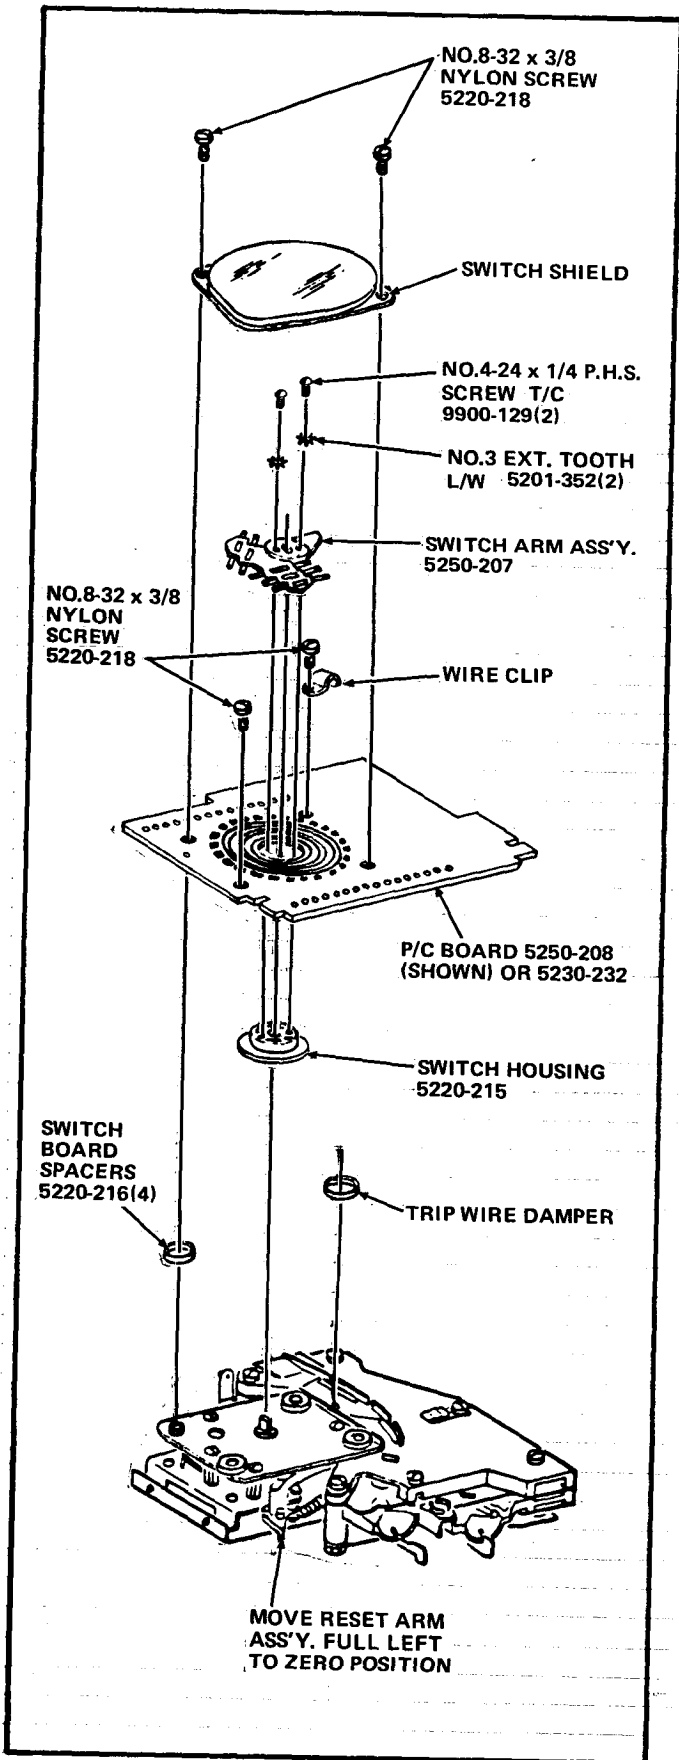

FIGURE 5
- b. Install the Switch Housing, Part Number 5220-215, included in the Kit, on the Accumulator Assembly Shaft with the flat side down. See Figure 5.
- c. Install the four Switch Board Spacers, Part Number 5220-216, included in the Kit, and the Trip Wire Damper removed in Step H-5. See Figure 5.
- e. Attach the PC Board with two of the No.8-32 x 3/8 Pan Head Nylon Screws, Part Number 5220-218, included in the Kit. Install one Screw in the hole at the lower left of the Switch Contacts. Install the other Screw and the Plastic Wire Clip removed in step H-3 in the hole at the upper right of the Switch Contacts. See Figure 5.
- g. Install the Switch Arm Assembly, Part Number 5250-207, included in the Kit, as shown in Figure 5. Attach the Switch Arm Assembly to the Switch Housing installed in step I-2-b, using the two No.4-24 x 1/4 Pan Head T/Cutting Screws, Part Number 9900-129, and the two No.3 External Tooth Lockwashers, Part Number 5201-352, included in the Kit. Do not tighten the Screws all the way.
3. Install the Switch Shield removed in step H-2. Attach the Switch Shield with the two remaining No. 8-32 x 3/8 Pan Head Nylon Screws, Part Number 5220-218, from the Kit. See Figure 5.